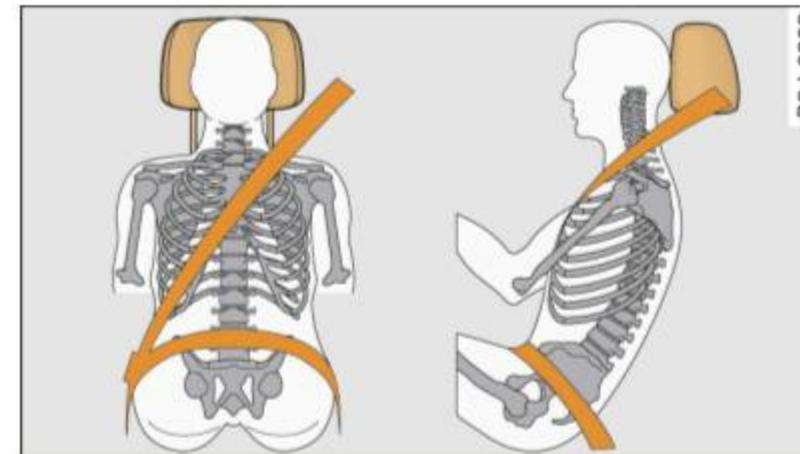

Fig. 167 Head restraint and safety belt position as seen from the side
- The safety belt must lie flat and snug on the occupant's upper body ⇒ *page 162, fig. 167*. Pull on the belt to tighten if necessary.
- The lap belt portion of the safety belt must be positioned as low as possible across pelvis and never over the abdomen. Make sure the belt lies flat and snug ⇒ *page 162, fig. 167*. Pull on the belt to tighten if necessary.